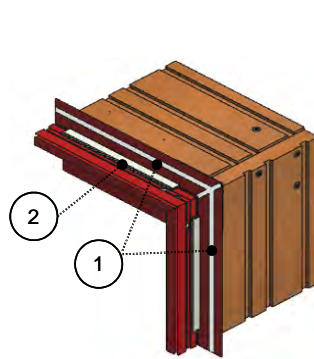

Figure 2
- Add galvanized nailing fin sealant on mitered joints, perimeter and sides. Gasket is then placed at each top corner. (Figure 2 & 3)
- b. Apply continuous bead of galvanized nailing fin sealant (1) from head to jamb and mitered corner. (Figure 2)